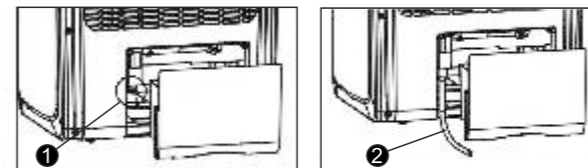

Fig. 10
1. When the unit is in cooling mode, it is not necessary to install the condensate drainage pipe since condensate evaporates automatically. Make sure that when the unit is operating, the rubber plug (1) of the drainage hose is securely fixed (see Fig. 10).
2. In heating mode, remove the rubber plug (1) of the drainage hose (Fig. 10), install the respective drainage hose to improve heating efficiency.
3. In dehumidification mode, remove the rubber plug (1) of the drainage hose, install the respective drainage hose. Disconnect the air outlet hose, connect the drainage hose to the drainage hole and drain water from the unit to ensure maximum dehumidification efficiency. When drain hose not attached water collects in the tank for condensate. When the tank is filled on the LCD display shows the E4. To resume the operation, remove the rubber plug (2) of the drainage hose to drain water at first. After water is drained...